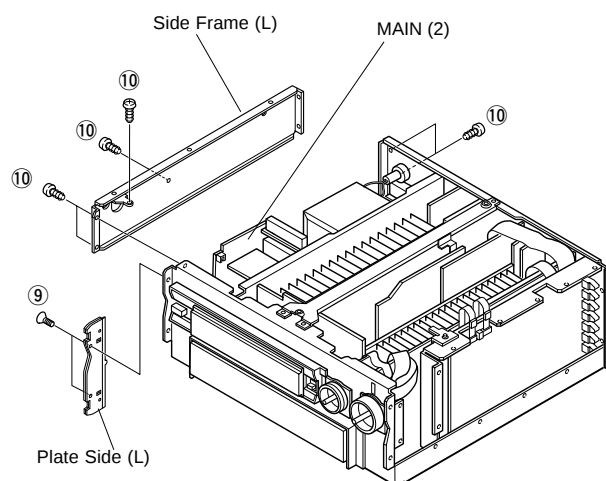

Fig. 3
5. Removal of Main P.C.B. (2)
- a. Remove 2 screws (⑨) and remove the left Plate Side in Fig. 3.
- a. Remove 6 screws (⑩) and then remove the left Side Frame in Fig. 3.